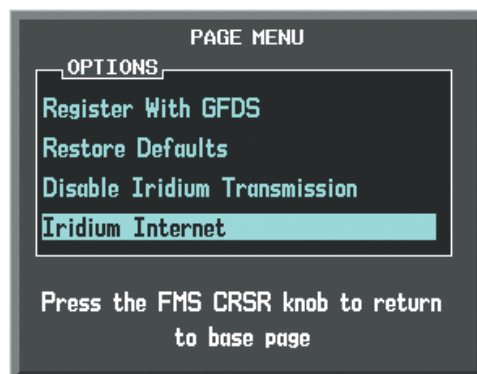

Figure 8-74 Select Iridium Internet
- 5) Press the **MENU** Key. The Page Menu window is now displayed as seen in Figure 8-74.